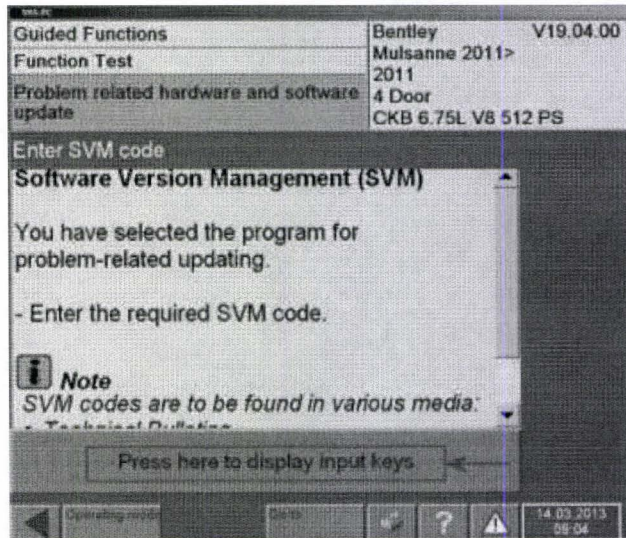

Figure 5
9. Display the virtual key board (*Press here to display input keys*) (see Figure 5)